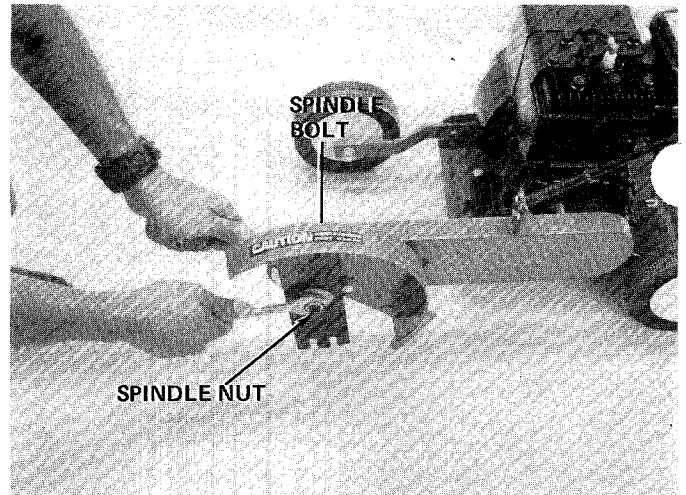

FIGURE 13.
**Blade Removal** - Hold head of spindle bolt with a 3/4" or adjustable wrench and remove spindle nut. See figure 13.